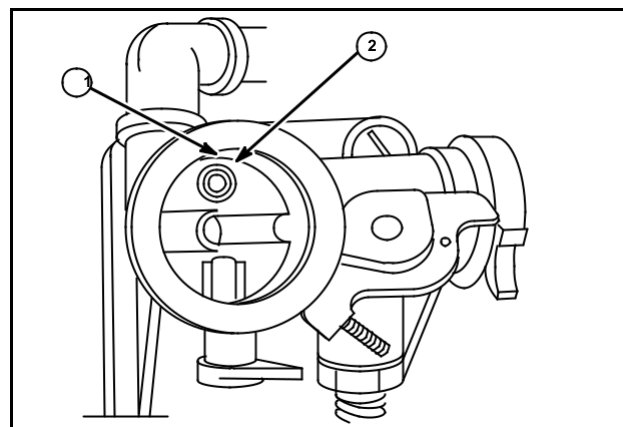

Fig. 38
Do not reseal parts on assembly. When replacing choke plate and shaft, install choke plate on short shaft side (1) so poppet valve spring is visible when valve is in full choke position on carburetors using poppet valve (2), Fig. 38.